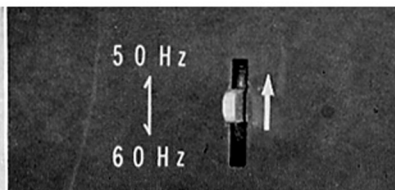

Fig. 8
Correct tape speed cannot be obtained if the Cycle Conversion Switches are not properly positioned. The CYCLE CONVERSION SWITCH (A) is located in the upper center of the top face panel and the CYCLE CONVERSION SWITCH (B) is located in the rear of the recorder. Using a screw driver, rotate the CYCLE CONVERSION SWITCH (A) counter clockwise approximately one-eighth of a turn. The switch can then be moved either OUT or IN. 50 cycle operation is obtained by moving the switch OUT (Fig. 8), and 60 cycle operation by moving the switch IN (Fig. 9). The switch should be rotated back to its original position after it has been moved either OUT or IN. The CYCLE CONVERSION SWITCH (B) should also be reset.